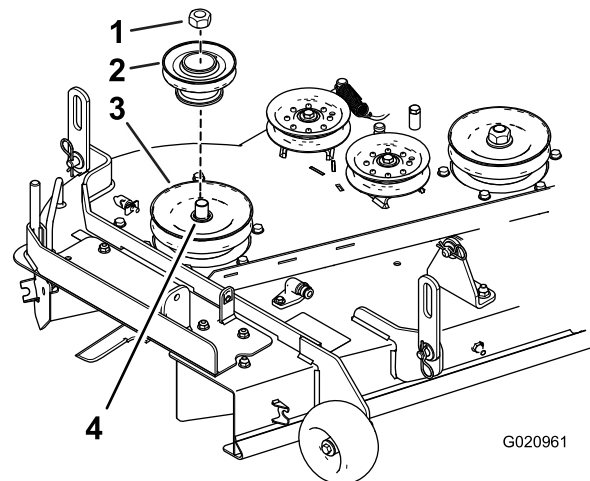

Figure 7
2. Install the pulley assembly to the right mower deck pulley with the previously removed nut. Do not use the washer. Save the washer and use it when the pulley assembly is removed (Figure 7).